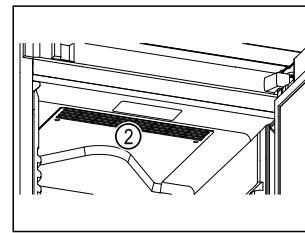

Fig. 65
- ❑ Ventilation slots Fig. 65 (2) for recirculation fan in the interior must be kept clear.